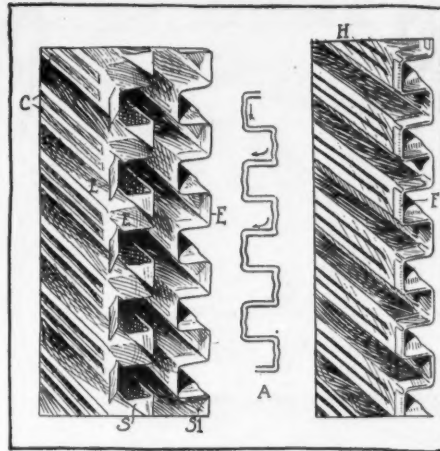

FIG. 18—LIVINGSTONE RADIATOR
**Livingston Radiator Co.**—The construction of the Livingston square tube radiator is illustrated in Fig. 18. The water follows a zigzag course from top to bottom, as illustrated at A in the central part of the illustration. The method of forming each